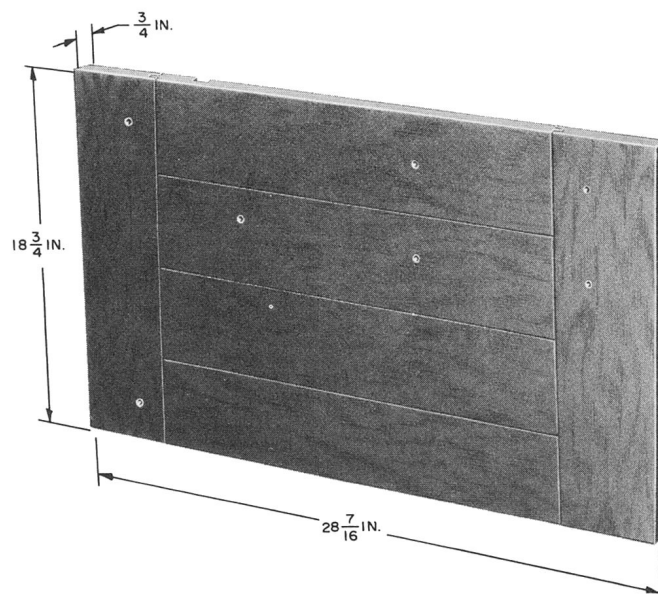

Fig. 11 — P-480578 Backboard
2.19 The P-480578 backboard (see Fig. 11) is used to install the 19-type pay station shelf and is supplied with the shelf. There are seven tee nuts set in the backboards. These are used to attach the shelf to the backboard. Holes for